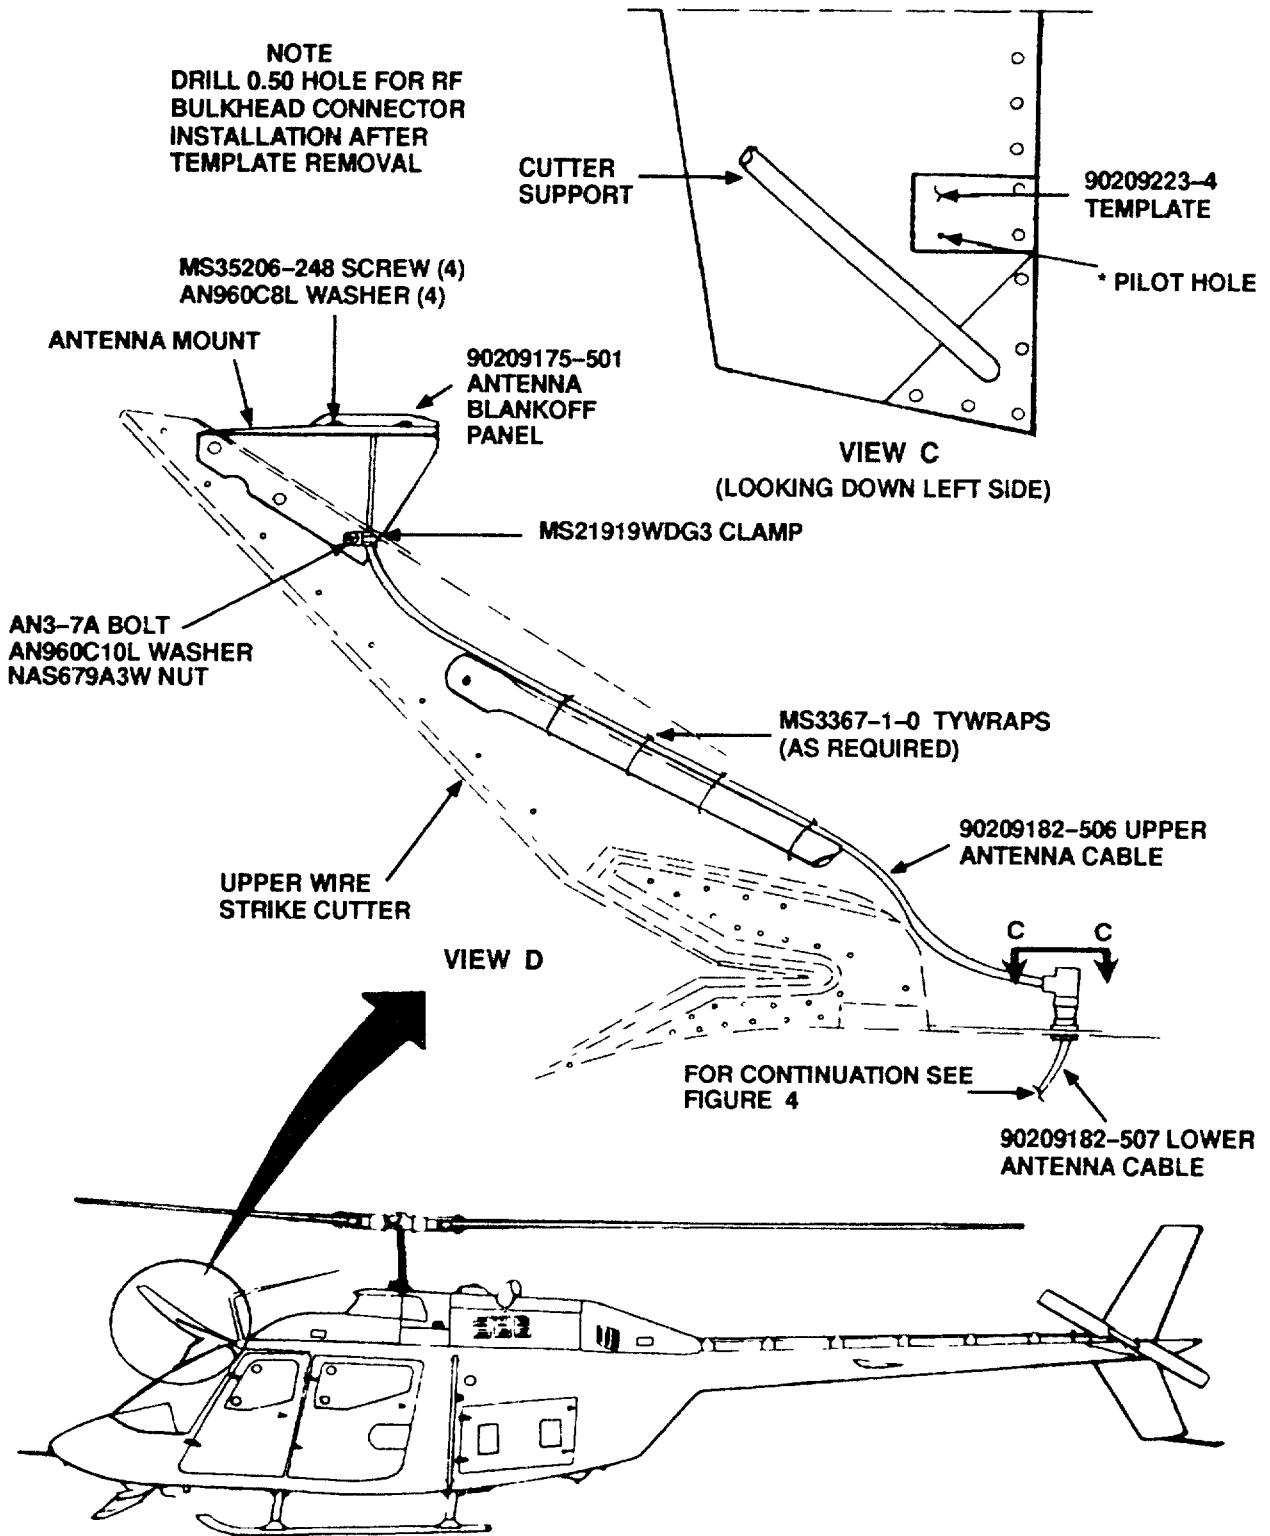

Figure 5. GPS Antenna Cable Installation.
- (37) Install clamp (P/N MS21919WDG3) to lower mounting bolt on antenna mount (Figure 5, View D)
- (38) Secure antenna cable to antenna mount with clamp (P/N MS21919WDG3) (Figure 5, View D)
- a. Remove GPS antenna Blankoff panel (if Installed) from GPS antenna mount (Figure 5, view D)
- d. Secure with four screws (P/N MS35206248) and four washer (P/N AN960C8L) (Figure 5)
- (1) Check antenna cable connection to Trimpack receiver.
- (2) Check antenna cable connection to bulkhead connector.
- (3) Check antenna cable connection to GPS antenna.
- (4) Recheck antenna installation.
- d. Install antenna Blankoff panel (P/N 90209175-501) on GPS antenna mount with four screws (P/N MS35206248) and washers (P/N AN960C8L) (Figure 5).
- d. Remove antenna blankoff panel (PIN 90209175-501) from GPS antenna mount by removing four screws (PIN MS35206-248) and four washers (PIN AN960C8L) (Figure 5, View D).